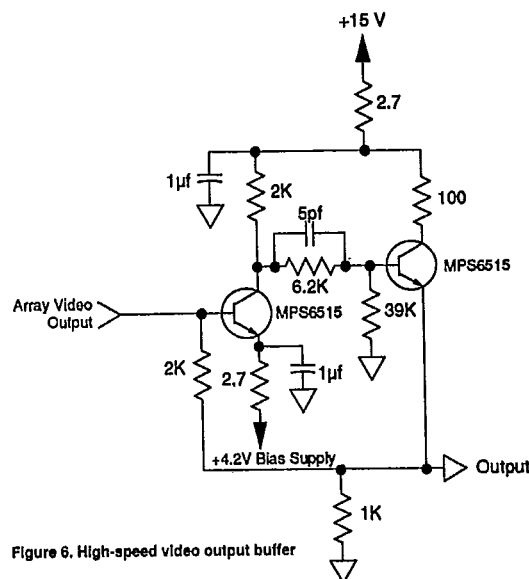
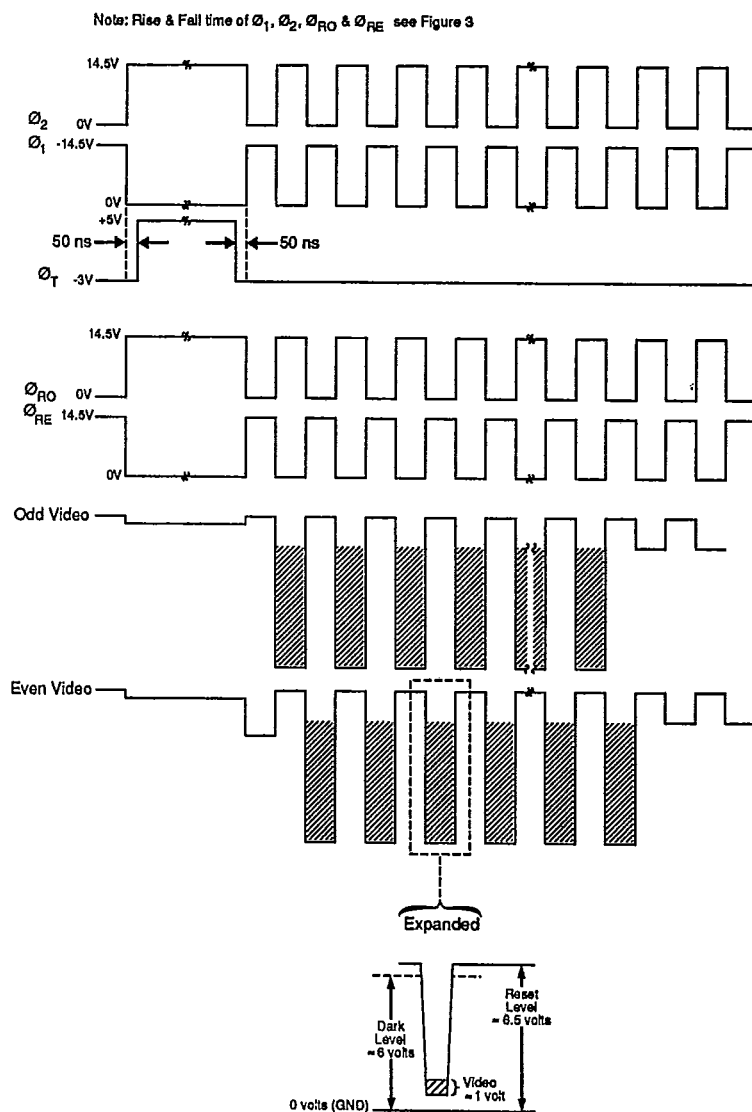

Figure 6. High-speed video output buffer
Figure 5. Timing relationship of the array's clocks and output
Readout for each block is accomplished by clocking the CCD shift registers so that the charge packets are delivered sequentially into two on-chip charge-detection circuits (refer to Figure 5 for timing). The registers deliver the charge packets alternately, allowing the inactive charge detector to be reset to a fixed level of ϕ_{re} or ϕ_{ro} while the opposite detector is active. The outputs of the two detectors may then be multiplexed off-chip to obtain a stepwise-continuous video signal.
The transfer pulse, ϕ_T , should swing between -3 and +5V and have a width greater than 0.5 μ sec. In order to transfer the charge from the photodiodes into the CCD register, the ϕ_1 clock should remain high during the blanking and transfer interval, as shown in Figure 5. This same figure also shows ϕ_{RE} , the even reset clock, and its relationship to ϕ_1 and ϕ_2 clocks, as well as the odd and even video outputs. The odd and even output reset clocks, ϕ_{RO} and ϕ_{RE} , are derived from the same sources as ϕ_1 and ϕ_2 and are nominally synchronous with them.
A suitable high-speed video output circuit is shown in Figure 6. This circuit is preferable to a 3K load resistor because it reduces the current demand while maintaining speed capabilities.
Video Output waveforms shown in Figure 5 typify video output performance as measured across a 3K load resistor. The rise and fall times are relative since they are affected by capacitive loading, including oscilloscope probe capacitance. For data rates greater than 3 MHz, an output circuit such as Figure 6 is recommended and video rise and fall times of 50 ns or less are typical.
- ³ Measured using light source of Figure 6. Filtered with Fish-Schurman HA-11 heat absorbing filter
- ⁷ See Figure 5 for output schematic